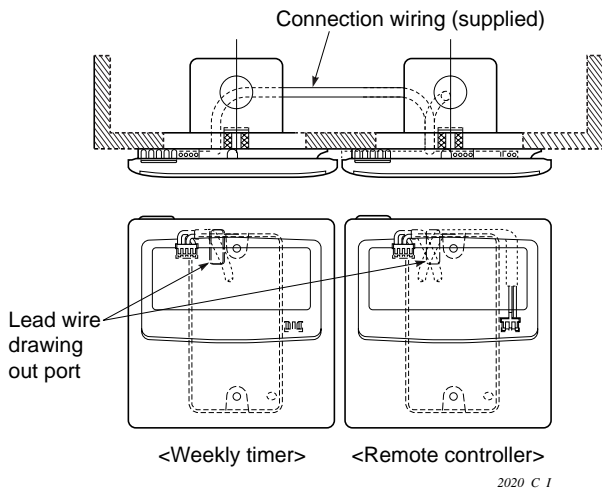

Fig. 8-4
- Pass the supplied connection wiring through the lead-wire drawing-out port on the bottom case of the weekly timer, then run it behind the wall and connect it to the timer terminal (4P terminal) of the remote controller. (Fig. 8-4)